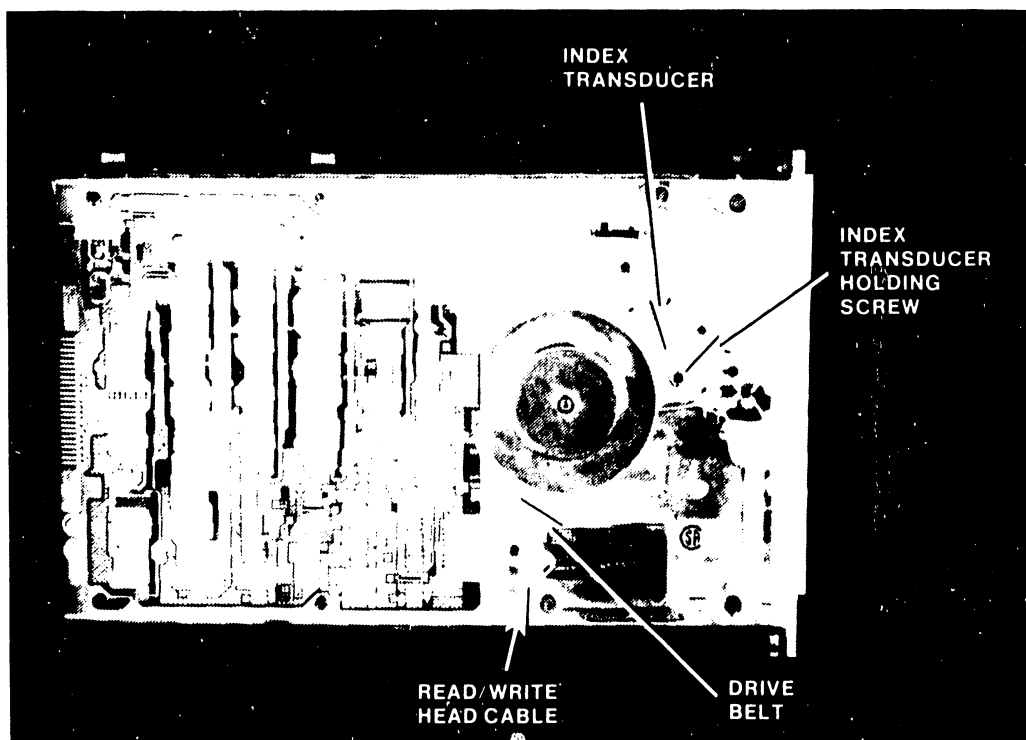

Figure 5-2 Shugart 850/851, Left Side
Refer to Figures 5-2 and 5-3 for the following procedures.
5. Loosen the index transducer holding screw until the transducer is just able to be moved (see Figure 5-2).